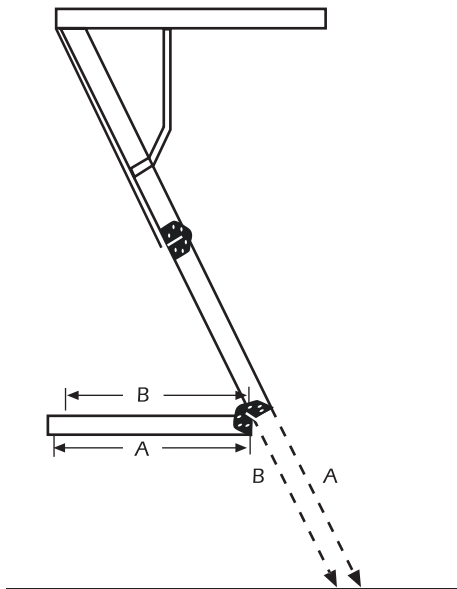

Fig. 8
7. After adjusting the bottom section to fit the floor, have someone stand on the second or third step from the bottom and inspect the side rails to make certain there are no gaps between the hinged sections. All three sections should form a straight line. (See Figures 8 - 10 for correct stair alignment.)
Step 9– Fully extend the folding section of the stairway. Fold the bottom section of the stairway under the middle section, so that the top and middle sections form a straight line (See Fig. 8). Apply pressure on the stairs to ensure the spring arms are fully extended.
Step 10– Place a straight edge on top of the middle section and slide it down until it contacts the floor. Measure the distance from the end of the middle section to the floor (A in Fig. 8). Mark the distance on the A side (front) of the bottom stringer.
Step 11– Place a straight edge on the bottom of the middle section and slide it down until it contacts the floor. Measure the distance from the end of the middle section to the floor (B in Fig. 8). Mark the distance on the B side (back) of the bottom stringer. It is possible for the landing area to be uneven, so repeat this procedure on the other stringer.